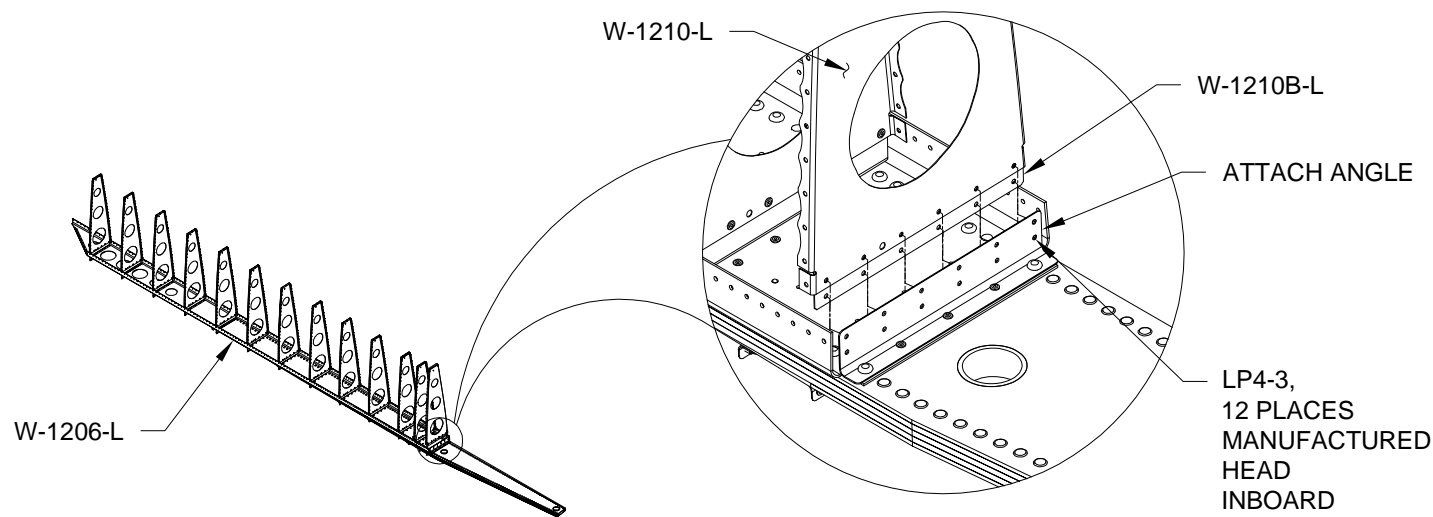

FIGURE 2: ATTACHING THE MAIN RIB AND DOUBLER
Step 6: Cleco then rivet the W-1210-L Main Rib with the attached W-1210B-L Rib Doubler to the remaining attach angle on the W-1206-L Spar Assembly. See Figure 2.